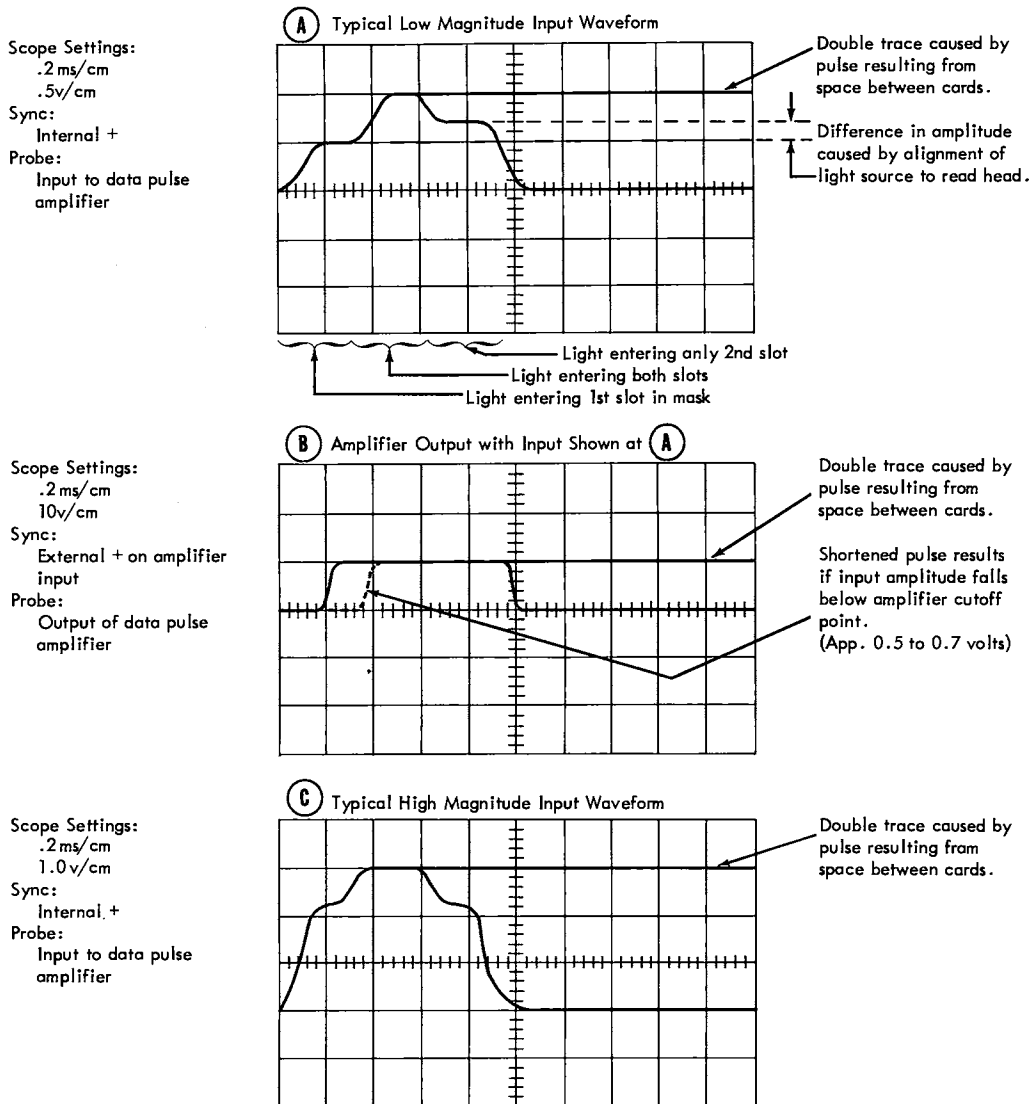

Figure 4-9. Data Pulse Waveforms
- b. Scope inputs to all data pulse amplifiers (ER 121, 131). Determine which amplifiers receive input waveforms with the lowest amplitude, and which amplifiers receive input waveforms with the highest amplitude (Figure 4-9).
- c. Scope the output of the amplifier receiving the lowest amplitude waveform. Decrease lamp voltage until the data pulse length at the amplifier output decreases sharply (Figure 4-9). The lowest portion of the input waveform should now be about 0.5 to 0.7 volts.